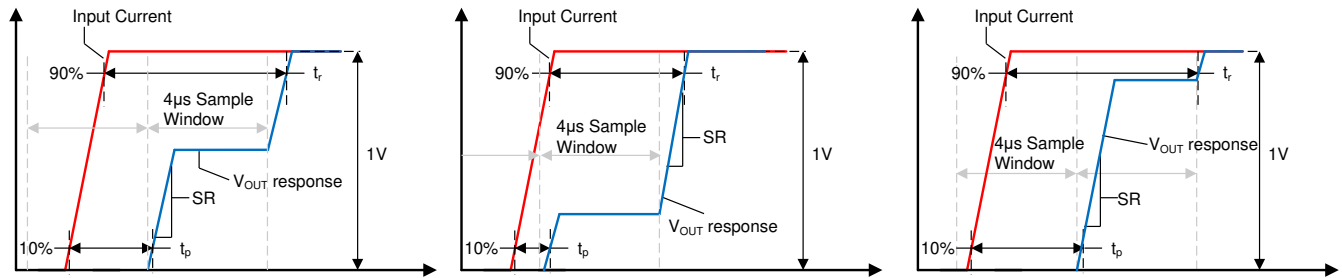

Figure 7-3. Small Current Input Step Transient Response
Slew rate (SR) is defined as the V_{OUT} rate of change for a single integration step output transition, as shown in Figure 7-3. Because the device often requires two sampling windows to reach a full 90% settling of the final value, this slew rate is not equal to the 10%-90% transition time for the full output swing.
Propagation delay is the time period between the input current waveform reaching 10% of the final value and V_{OUT} reaching 10% of the final value. This propagation delay is heavily dependent upon the alignment of the input current step and the sampling period of the TMCS1101, as shown for several different sampling window cases in Figure 7-3.
Response time is the time period between the input current reaching 90% of the final value and the output reaching 90% of the final value, for an input current step sufficient to cause a 1V transition on the output. Figure 7-3 shows the response time of the TMCS1101 under three different time cases. Unless a step input occurs directly during the beginning of one sampling interval the response time includes two sampling intervals.